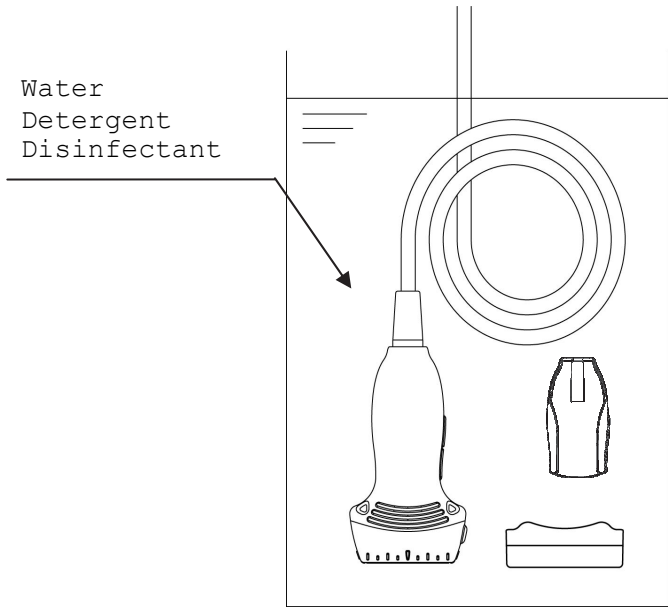

Fig. 11 Immersion of the Probe, the Magnetic sensor attachment and the elasto Coupler
- 2) Immerse the immersible part of the probe without connector into the diluted detergent solution (see Fig. 11). Wipe the immersible part of the probe under the surface of the detergent solution with a soft cloth to remove all visible soil. Be sure that all grooves of the probe are implemented during the cleaning process.
- 5) Rinse the probe with running tap water for 1 minute. (alternatively: immerse the immersible part of the probe in a tray filled with deionized water/tap water (see Fig. 11) for 5 min.)
- 4) Rinse the attachment with running tap water for 1 minute. (alternatively: immerse it in a tray filled with deionized water/tap water (see Fig. 11) for 5 min.)
- 3) Immerse the immersible part of the probe into the disinfectant (see Fig. 11). Set a clock to insure the recommended contact time which is 5 minutes.
- 4) Rinse the immersible part of the probe with deionized water for 1 minute. (alternatively: immerse the immersible part of the probe in a tray filled with deionized water (see Fig. 11) for 5 min.)
- 2) Immerse the attachment into the disinfectant (see Fig. 11). Set a clock to insure the recommended contact time which is 5 minutes.
- 3) Rinse the attachment with deionized water for 1 minute. (alternatively: immerse it in a tray filled with deionized water (see Fig. 11) for 5 min.)